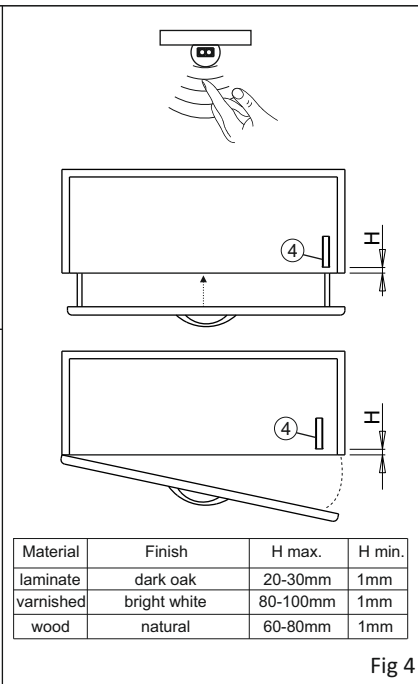

Fig 4
OPERATION (fig.4):
- If the **IR-SENSOR** has been set to operate as a limit switch, the lamps connected to it are turned off when an object (e.g. the door of a furniture unit) enters the device's radius of action (fig.4). Conversely, the lamps connected to it are switched on when no objects are present within its radius of action.